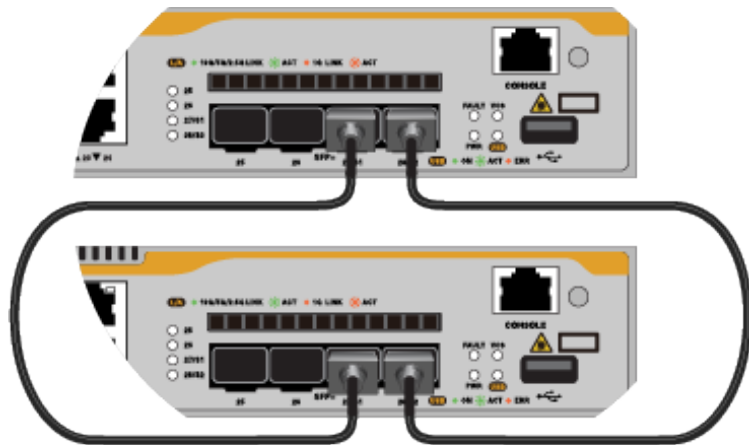

Figure 11. Stack Trunk Examples with S1 and S2 Ports
- ❑ Figure 11 illustrates a stack of two x540L-28XTm switches with ports 27(S1) and 28(S2) for trunk ports.